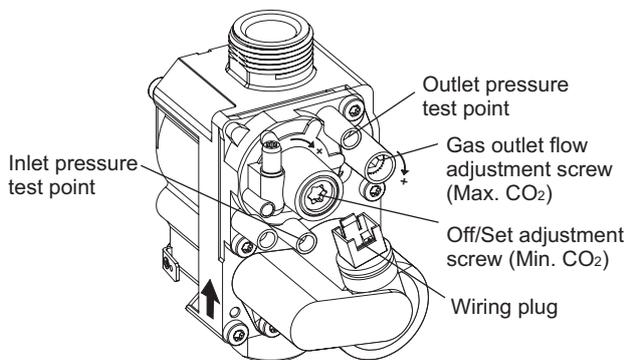
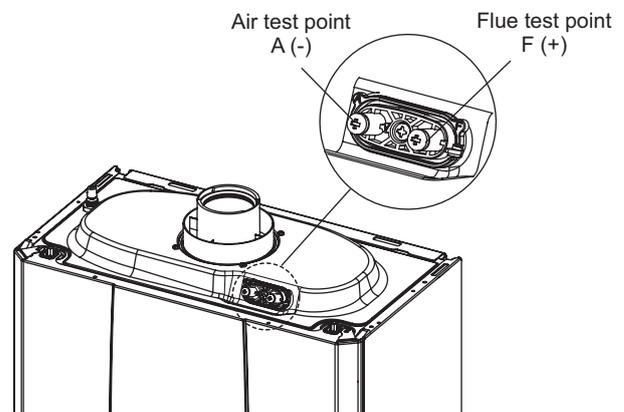

Fig. 6.2
Fig. 6.3
The air gas ratio of the boiler has been factory-set and should not require adjusting during commissioning. If adjustment is recommended or required the engineer must be competent to carry out this work. See Fig. 6.3 for analyser test point.
Refer to Section 6.6 and enter the chimney sweep mode (with no DHW demand) use the DHW down button to set the output to minimum (0%). Insert the analyser probe into the flue test point (Fig. 6.3) and check that the CO2 value is as specified in Section 3.1, otherwise adjust the screw (Fig. 6.2) To increase the CO2 value, turn the adjustment screw in a clockwise direction and vice versa to decrease.
When you finish the minimum CO2 adjustment, while maintaining the chimney sweep function active, use the DHW up button to set the output to maximum (99%). Insert the analyser probe into the flue test point (Fig. 6.3) and check that the CO2 value is as specified in Section 3.1, otherwise adjust the screw (Fig. 6.2). To increase the CO2 value, turn the adjustment screw (Fig. 6.2) in a clockwise direction and vice versa to decrease it.
Connect the flue gas analyser to the flue gas sampling point as shown in Fig. 6.3.
**Notes:** 1. Prior to servicing, it is recommended that a flue gas analyser is used to measure the performance of the boiler (refer to Fig. 6.3 for the position of the flue sampling point). Refer to Section 6.6 Checking combustion. If the CO/CO2 ratio measured is greater than 0.004 **or** when other checks or comments from the customer have indicated that there may be problems, check the following: